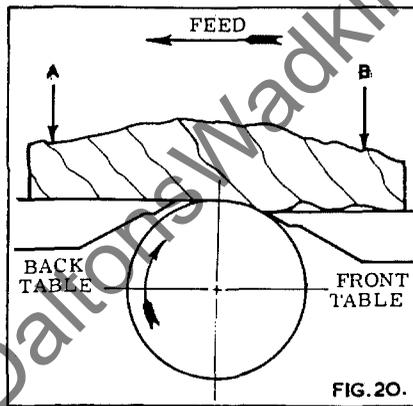

FIG.20.
2. To obtain a perfectly flat surface especially with warped stock always put maximum pressure on the back table at "A" in fig. 20 and as little as possible on the front table "B".